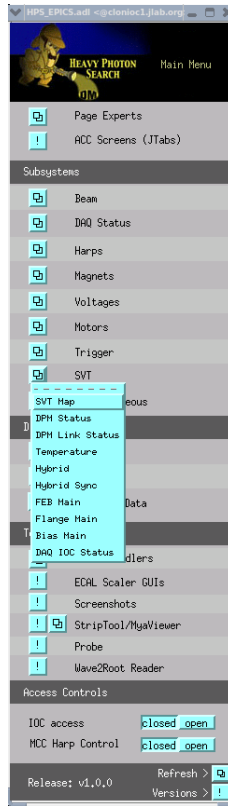

Figure 2.1: HPS EPICS main GUI.
2. Open a terminal and issue `hps_epics` command to open the main HPS GUI. Figure 2.1 show the SVT part of the GUI open.